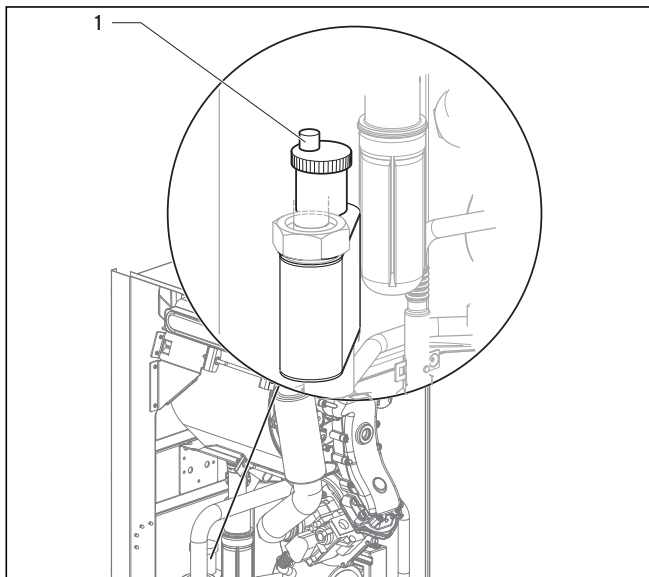

Fig. 5.1 Bleeding the appliance
- Open the cap of the appliance-internal exhaust fan (1) (fig. 5.1).
- Slowly unscrew the filling cock and tap valve and fill with water until the required system pressure at the pressure gauge (2) has been reached (at least 1 bar).